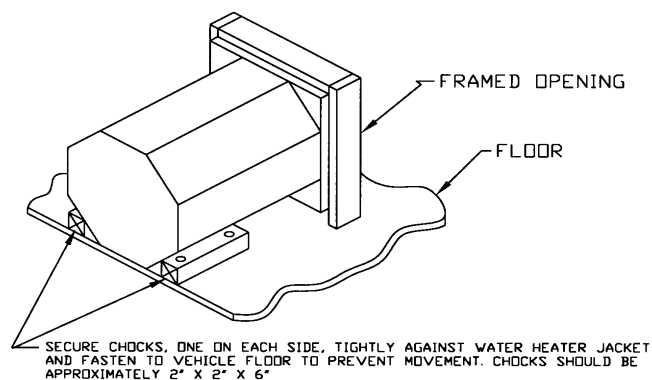

Figure 1A
- C. Install chocks, one on each side of water heater, as illustrated in Figure 1A.
- G. Insert door frame into control housing and secure with four (4) No. 8-15 x 3 1/2" screws provided.